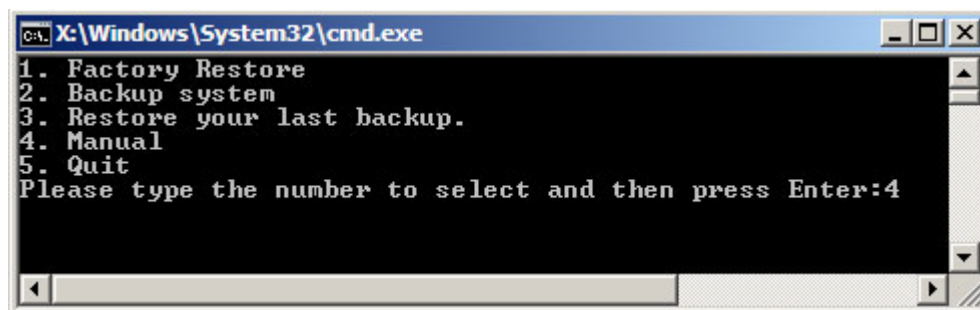

Figure B-11: Recovery Tool Menu
Step 2: The recovery tool menu appears. Type <**4**> and press <**Enter**>. (**Figure B-11**)